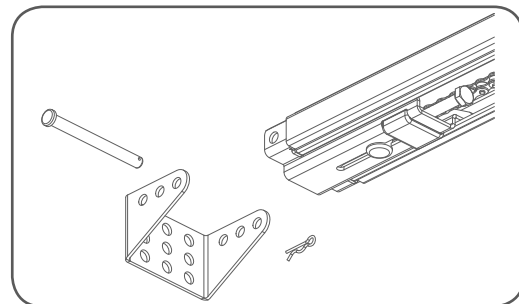

fig 11
- Attach the C-Rail assembly to the wall bracket with the 90mm long clevis pin and secure with the supplied snap pin (**Fig. 11**)
- Attach the bracket and C-Rail with supplied pins (Fig. 11).